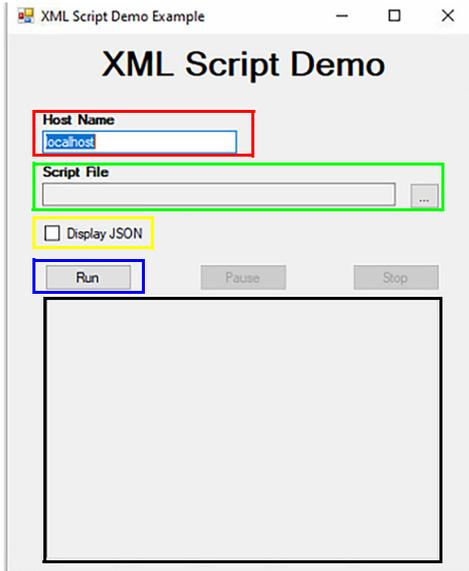

Figure 42 XML Script Demo Window
- Once the tool is open, input the name of the host machine in the Host Name text box (outlined in red in Figure 42)
- Select the **Display JSON** checkbox (outlined in yellow in Figure 42) if you want to show the JSON request that is sent to the server.
- Click **Run** (outlined in blue in Figure 42), to start the XML script. The operations will be output to the log window (outlined in black in Figure 42) as they happen.